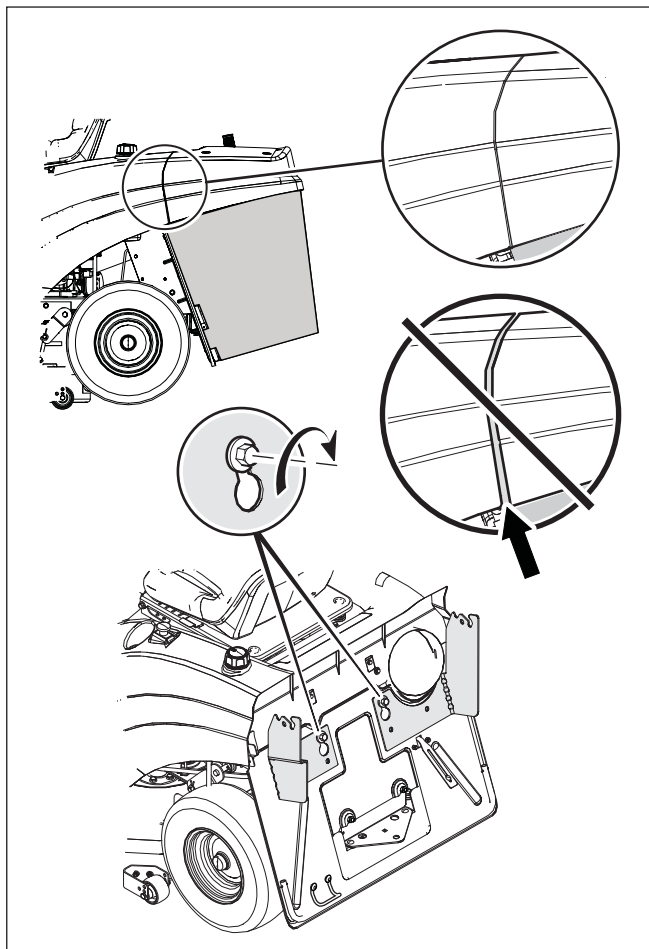

Figure 39
2. If necessary, adjust the bagger cover by tightening or loosening the bolts at the rear plate (see **Figure 39**). Tightening the bolt will move the bagger cover closer to the rear trim and loosening will increase the space between the parts.